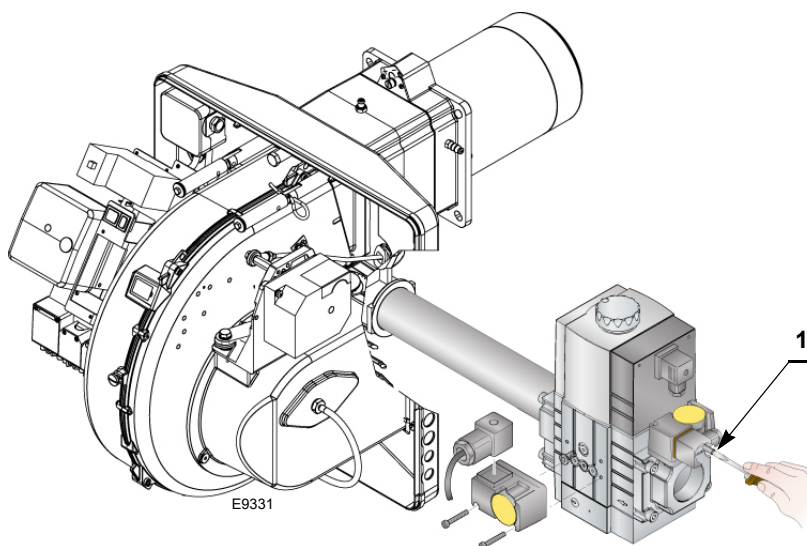

Fig. 21
- Bleed the air from the piping of the gas train, connecting a plastic tube to the pressure test point 1)(Fig. 21) of the minimum gas pressure switch.